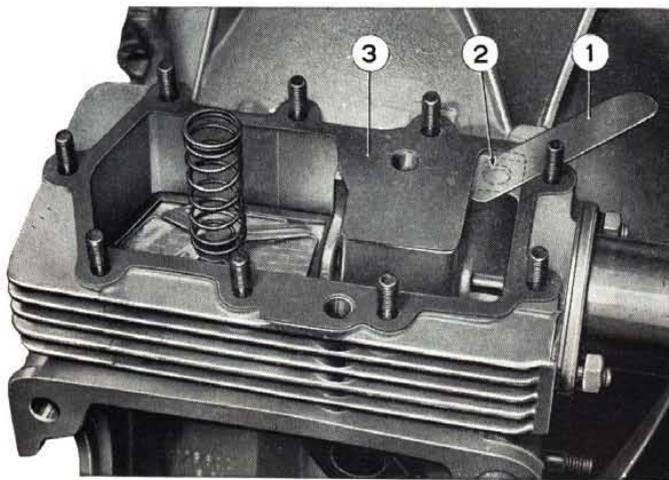

Fig. 588 - Assembling the valve cover.
- insert .020" (0.5 mm) feeler gauge (1, fig. 588) under gasket (3) to cover recess (2) to prevent the pressure regulating valve from damaging the gasket during assembly of cover;